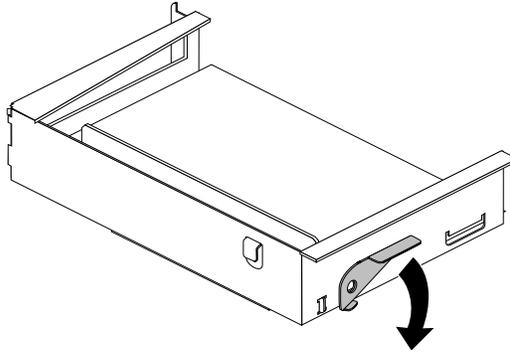

Figure 1-18 Returning the Lever to the Starting Position
1. Push the PCI tray lever to return it to its starting position (Figure 1-18).